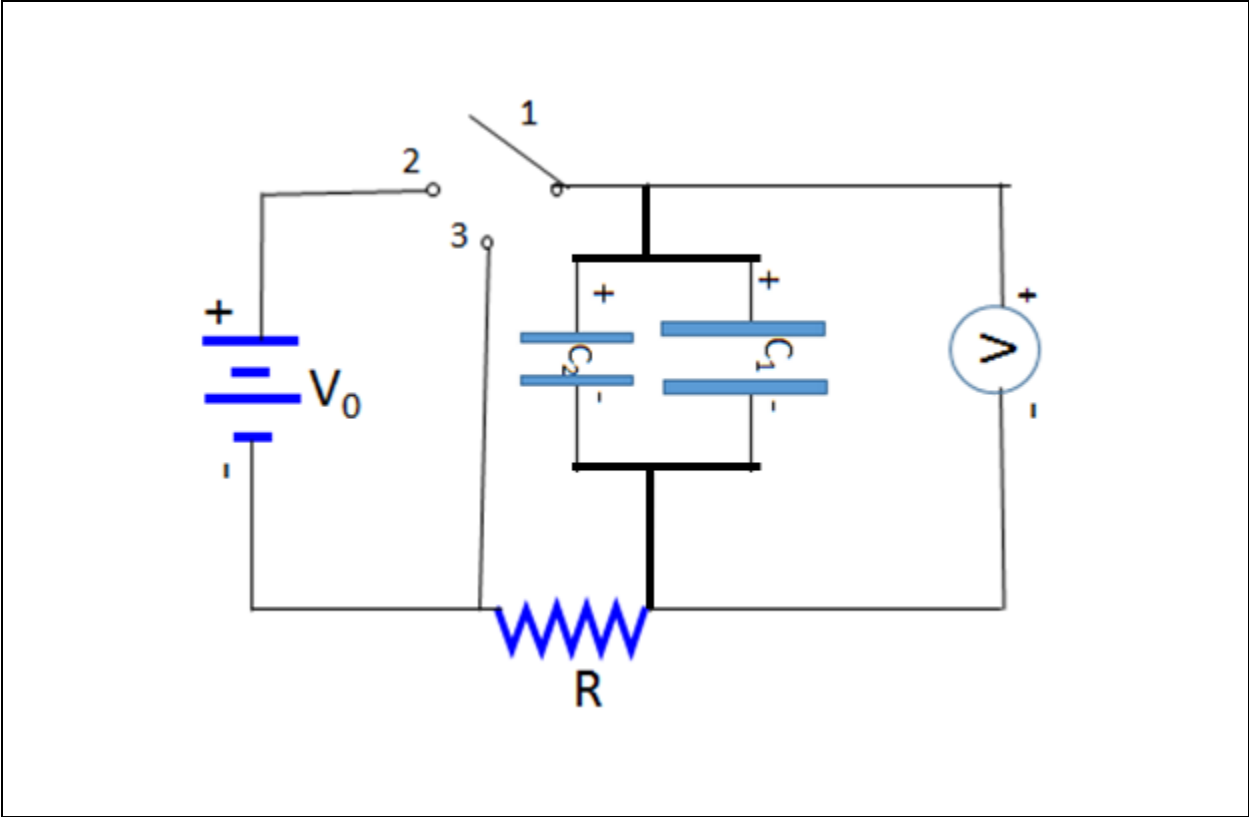

Figure 4: Parallel combination circuit diagram
1. Connect two capacitors in parallel as shown in **Figure 4**.
4. Find expected value from the theory equation (5).